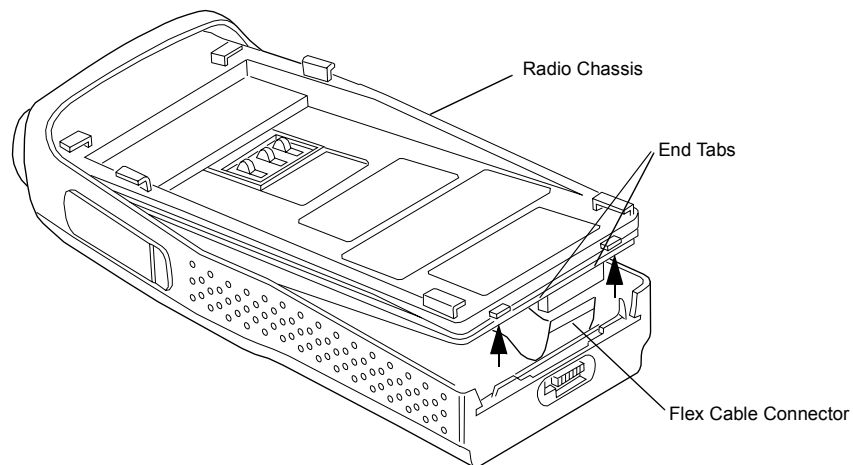

Figure 7-19. Keyboard Flex Cable Connection
2. Position the radio (Figure 7-19) and reconnect the flex cable connector from the keyboard into the connector located on the bottom of the main board, pushing up the 2 end tabs.